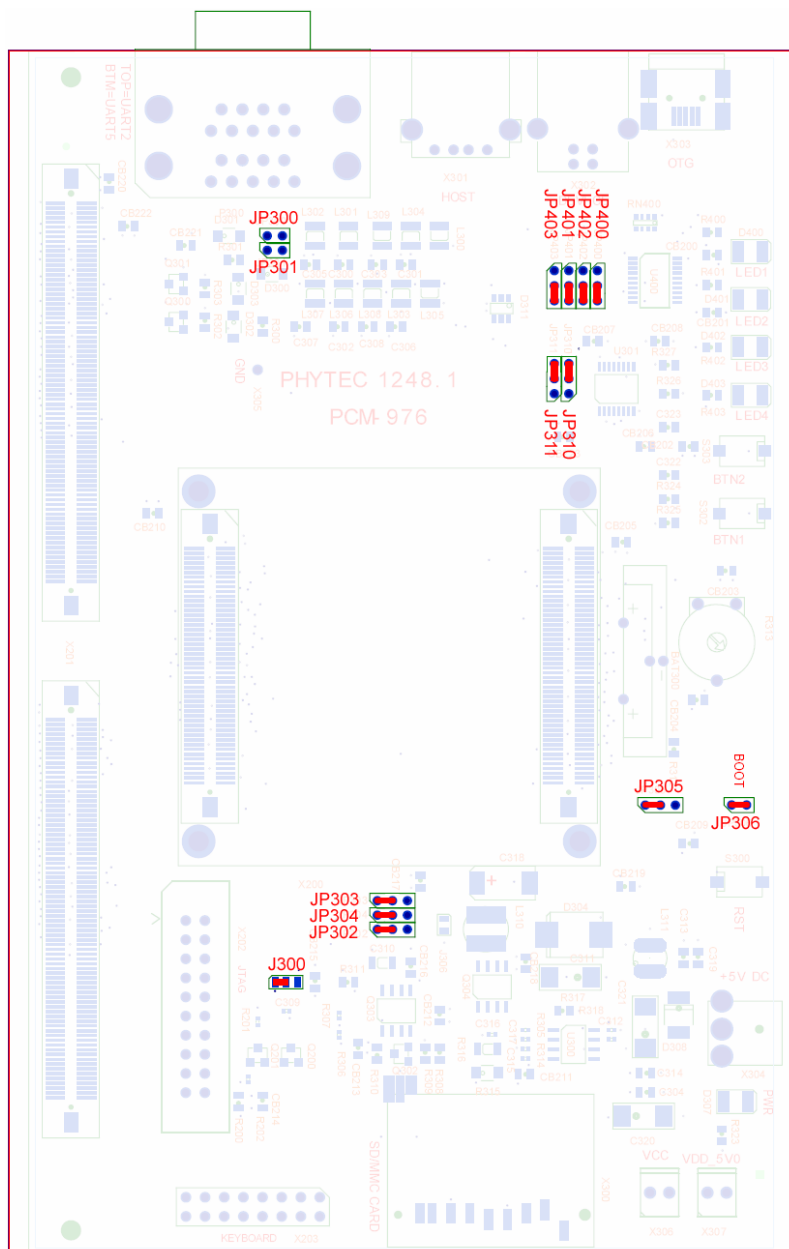

Figure 1: Default Jumper Settings of the phyCORE Carrier Board with phyCORE-LPC3180
- Ensure proper jumper settings on the phyCORE Carrier Board as shown in *Figure 1*. All phyCORE-LPC3180 Carrier Board jumper settings can be referenced in the phyCORE-LPC3180 Hardware Manual section 13.1.1.